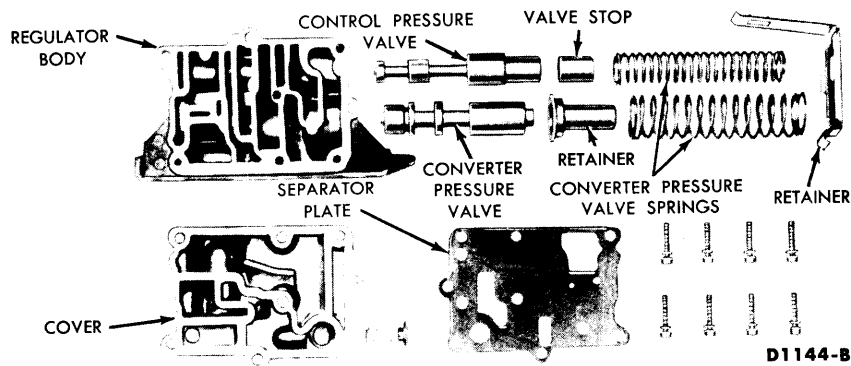

FIG. 42—Pressure Regulator Assembly
2. Remove the regulator body cover attaching screws, and remove the cover (Fig. 42).
13. Insert the valves in the pressure regulator body (Fig. 42).